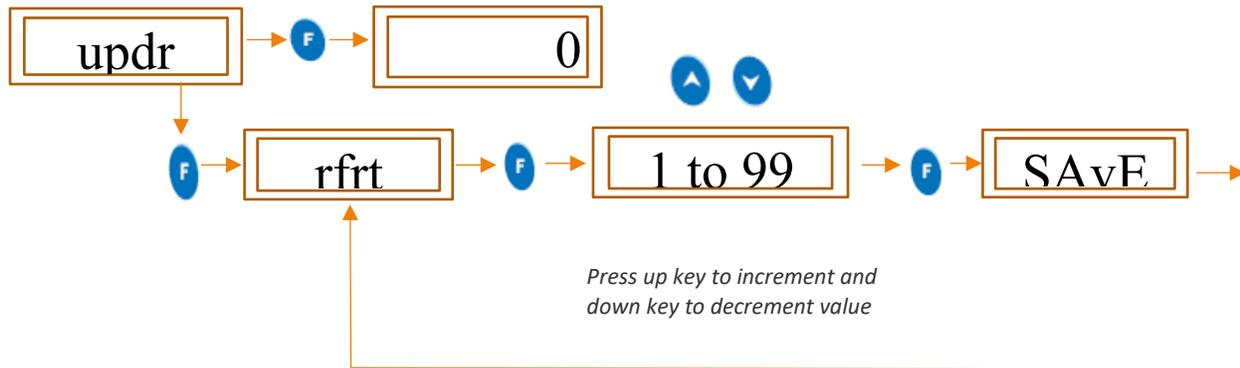

Figure 20 UPDR (Update Display Refresh Rate)
- To set the refresh rate follow the procedure shown in figure 20.